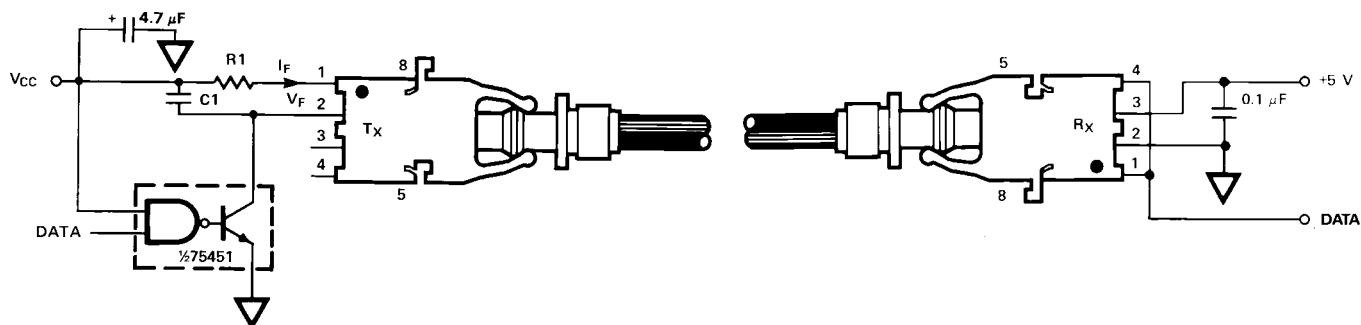

Figure 11. Required 1 MBd interface circuit
The HFBR-25X2Z receiver can not be overdriven when using the required interface circuit shown in Figure 11.
3. The LED drive circuit of Figure 11 is required for 1 MBd operation of the HFBR-25X2Z/25X4Z.